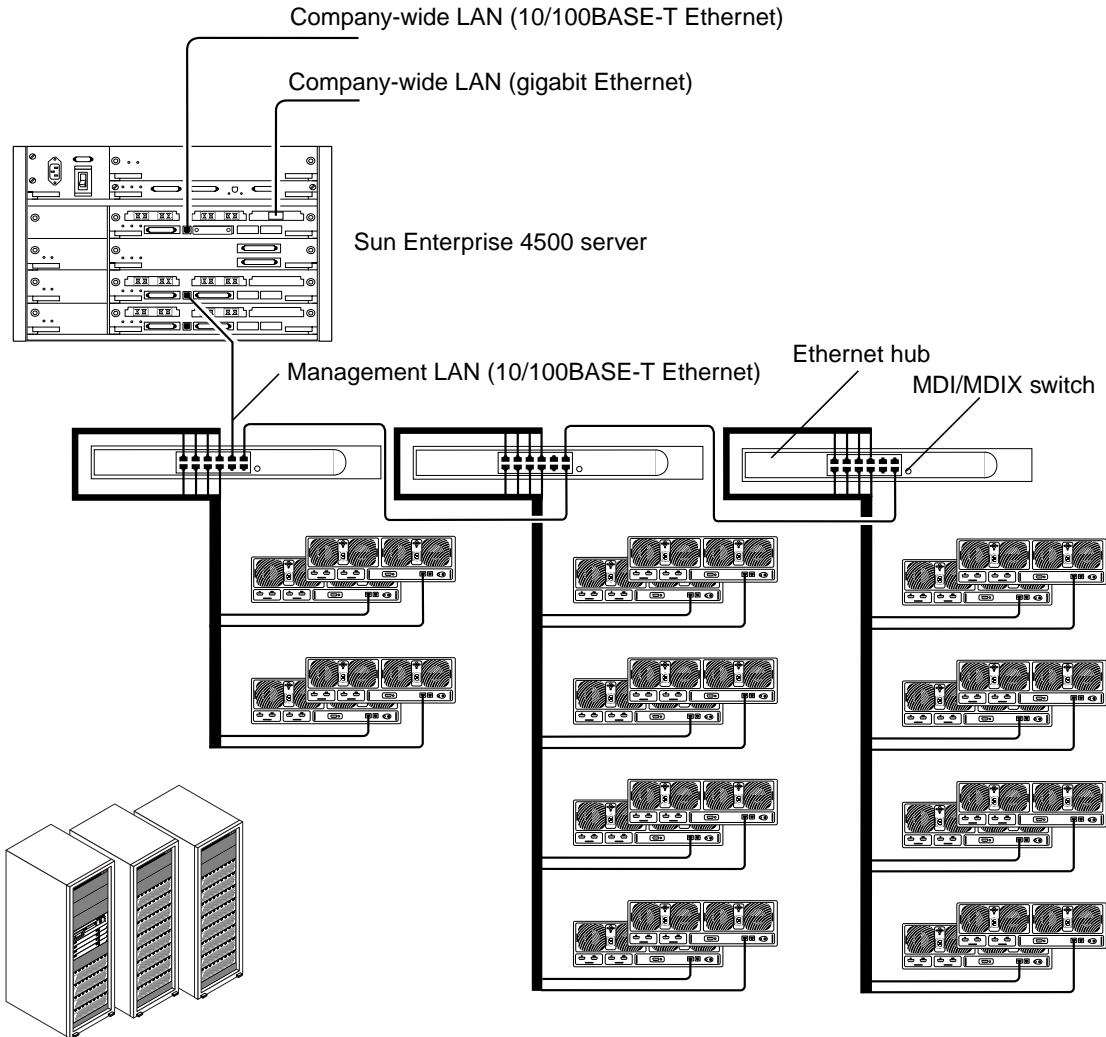

FIGURE 4 Management Network Interconnect for Sun StorEdge N8600 Filer
2. **Connect the other end of the Ethernet cable to the next available port of the 10/100BASE-T Ethernet hub as shown in FIGURE 4.**
4. **Connect the other end of the Ethernet cable to the next available port of the 10/100BASE-T Ethernet hub as shown in FIGURE 4.**
2. **Connect the other end of the Ethernet cable to any available port on the hub of the next expansion rack in line toward the rack that contains the server. See FIGURE 4.**
- Verify all cable connections as shown in FIGURE 3 and FIGURE 4.
The partner groups are connected to a local area network (LAN) as shown in FIGURE 4. To set up the connectivity for a partner group, perform the following steps: